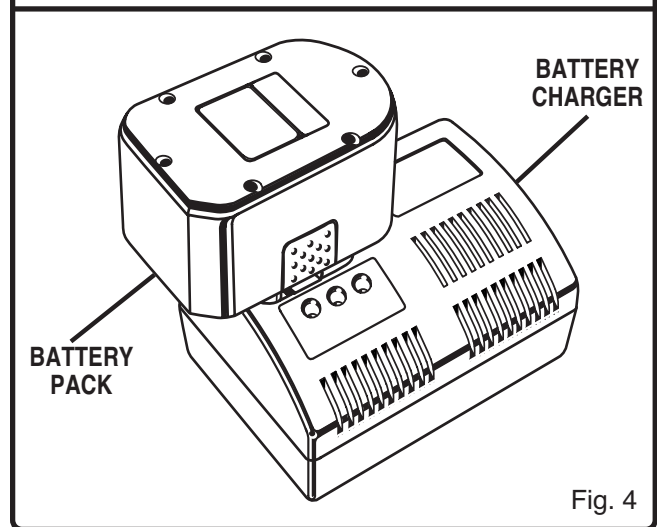

Fig. 4
- Place battery pack in charger. See Figure 4. Align raised rib on battery pack with groove in charger.